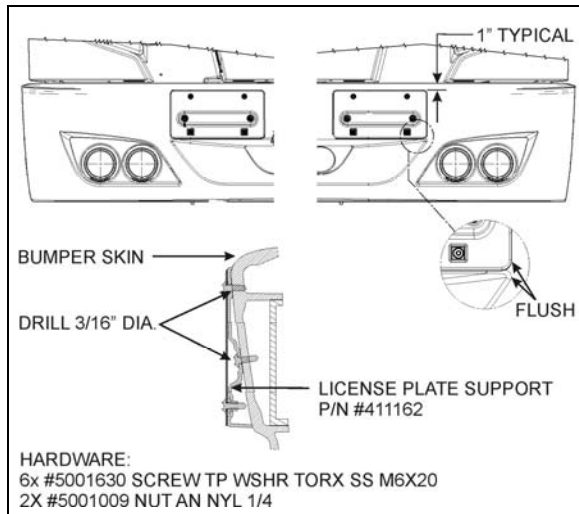

FIGURE 11: LICENSE PLATE SUPPORTS 18500A
2. Remove 4 cap screws holding bumper to vehicle and remove bumper (Fig. 11).